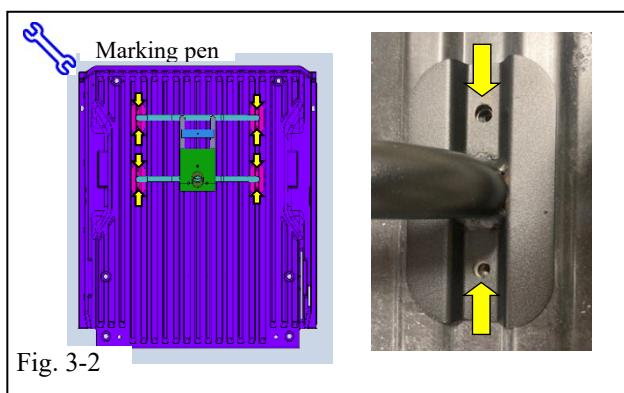

Fig. 3-2
- With the tire carrier in place, use the tire carrier as a template to mark the 8 mounting hole locations (Fig. 3-2). Remove tire carrier.